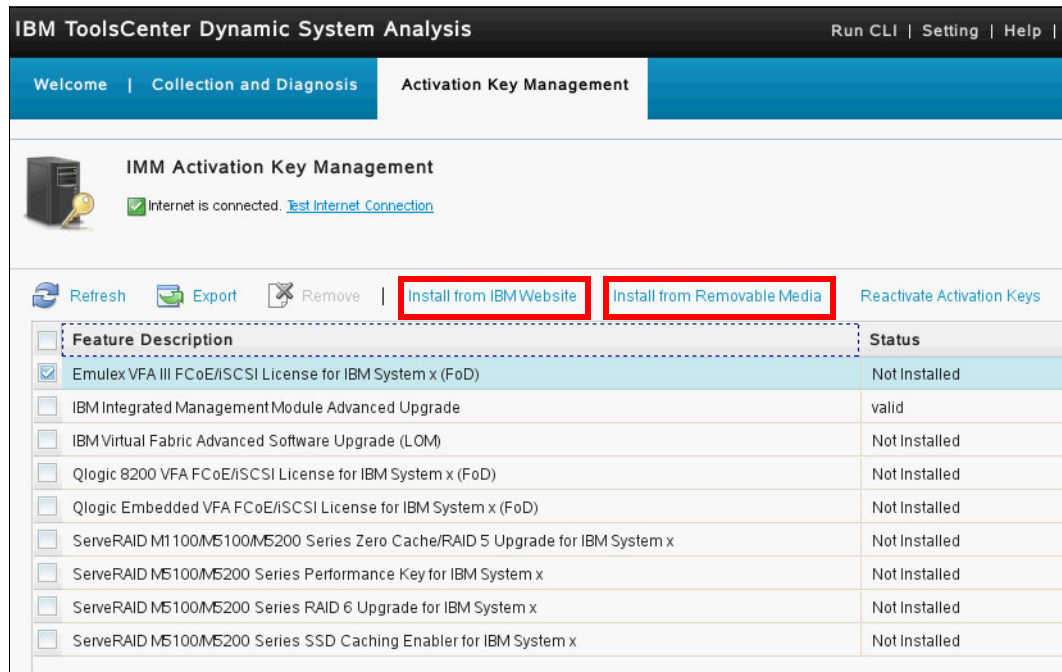

Figure 3-18 Activation key management window example with working Internet connection
8. Preboot DSA provides the following main choices to install the activation key, as shown in Figure 3-18 on page 63:
- Supply the FoD key file on a USB memory key or other portable media (for example, optical disc or USB drive). Select **Install from removable media**, as shown in Figure 3-18 on page 63.
- Have Preboot DSA download the FoD key directly from the Internet and install it. Select **Install from IBM Website**, as shown in Figure 3-18 on page 63.
1. Select **Install from IBM Website**, as shown in Figure 3-18 on page 63.